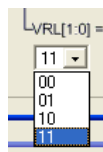

Figure 45
- (1) Click the network by mouse, INL can select the specified network.
- (2) Click the network switch by mouse, INL can select the specified network.
- (3) Click the mouse, a menu as Figure 45 will appear, and users can select the specified switch network.
(1) Click the network by mouse, VRL can select the specified network.
(2) Click the network switch by mouse, VRL can select the specified network.
(3) Click the mouse, a menu as Figure 45 Figure 50 will appear. Users can select the specified switch network.